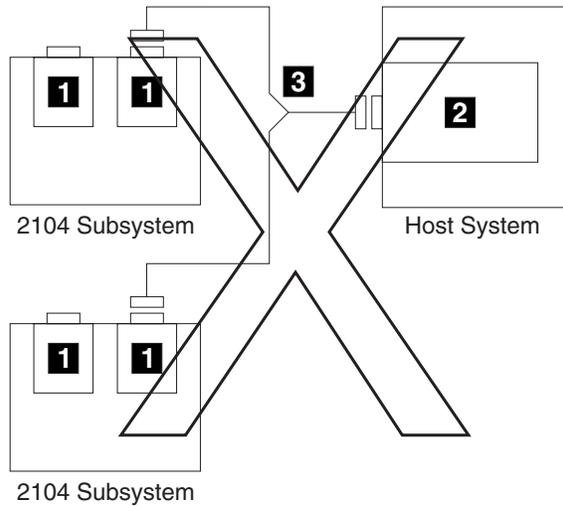

Figure 46. One adapter in one host system connected to two 2104 Model TS4s through a Y-cable (2). This configuration is invalid.
Figure 46 shows one adapter in one host system connected to two 2104 Model TS4s through a Y-cable (2).